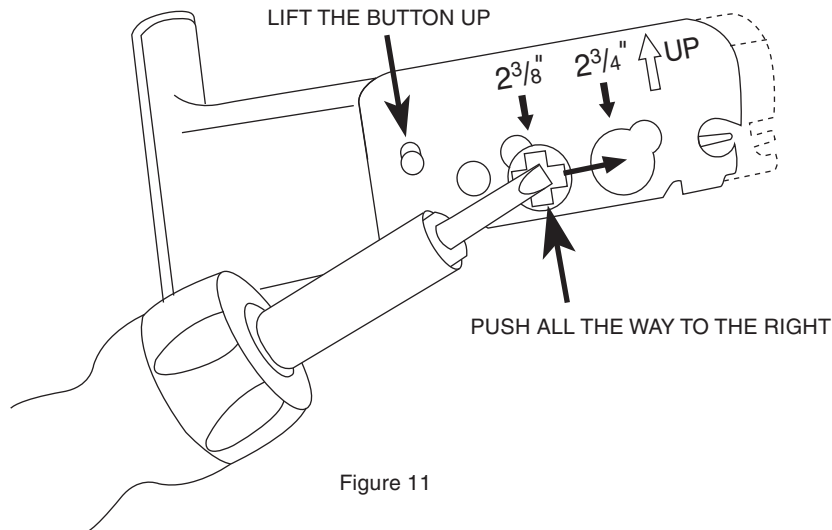

Figure 11
- a. Factory default set up is 2-3/8". To change to 2-3/4" both Dead Bolt and Spring Latch must be modified. Dead Bolt must be at the retracted position, then lift button up and push mechanism all the way to the right (Figure 11).